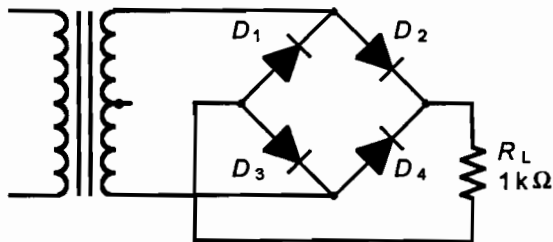

Figure 6.4
- Build the circuit of Figure 6.4. Following construction, take a minute and check your circuit to ensure that the diodes are installed correctly.
1. For the circuit of Figure 6.4 with diode  $D_1$  open, calculate the  $DC V_{out}$  and the ripple frequency.
2. Lift one end of  $D_1$  of the circuit of Figure 6.4. Apply AC power; then measure and record the values below.